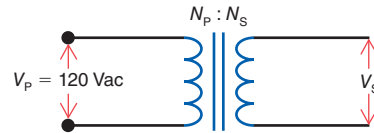

Figure 18-32
- 18.17** In Fig. 18-32, what turns ratio, $\frac{N_P}{N_S}$, is required to obtain a secondary voltage of